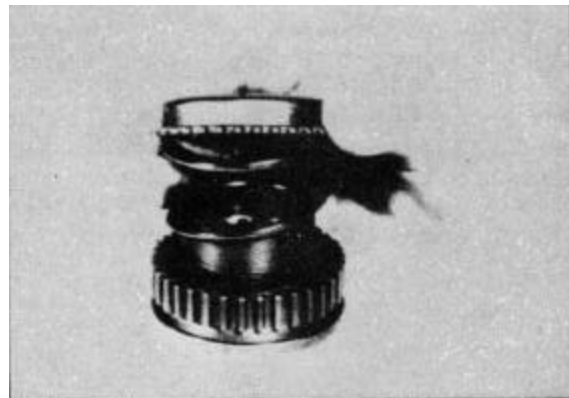

Figure 5-61
3. Assemble a spring over the inner hub of the side gear and against the spring seat of the side gear. Place the cupped section of a spring retainer over the spring (Fig. 5-61).